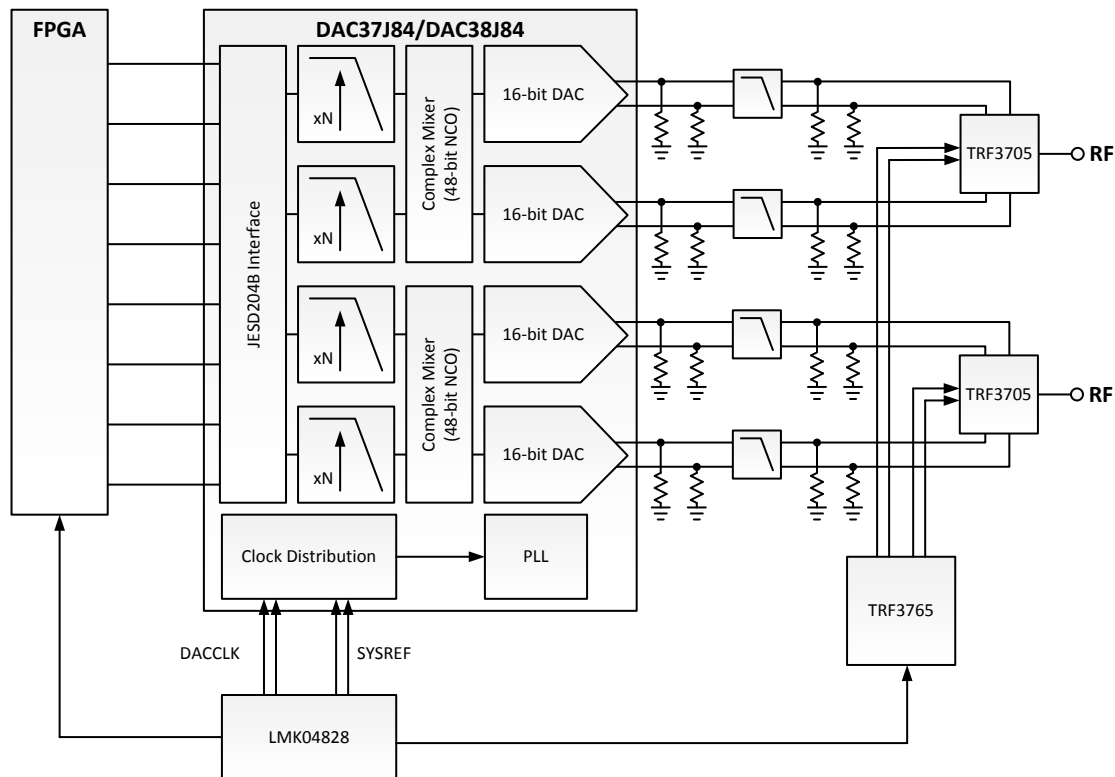

Figure 82. Dual Low-IF Wideband LTE Transmitter Diagram
Figure 82 shows an example block diagram for a direct conversion radio. Here it has been assumed that the desired output bandwidth is 80-MHz which could be, for instance, four 20-MHz LTE signals. It is also assumed that digital pre-distortion (DPD) is used to correct 3rd order distortion so the total DAC output bandwidth is 240 MHz. Interpolation is used to output the signal at the highest sampling rate possible to simplify the analog filtering requirements and move high order harmonics out of band. The internal PLL is used to generate the final DAC output clock from a reference clock of 307.2 MHz. The complex mixer will be used to place the baseband input signal at a desired intermediate frequency (IF). The maximum serdes rate that the chosen FPGA supports is 12.5 Gbps and the minimum number of serdes lanes is desired.